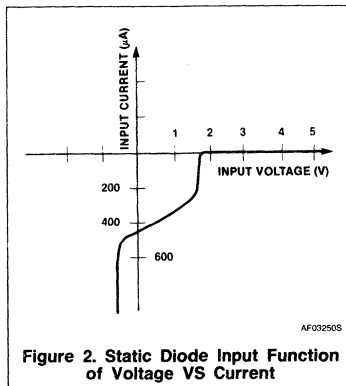
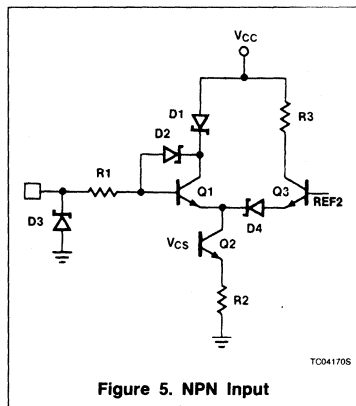
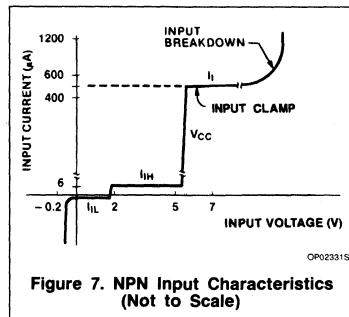

Figure 2. Static Diode Input Function of Voltage VS Current
Figure 5. NPN Input
Figure 7. NPN Input Characteristics (Not to Scale)
The static diode input function of voltage versus current is shown in Figure 2. If the pin voltage is negative, most of the relatively high negative current flows through the clamp Schottky D2. At 0V the current flows from VCC through R1 and D1 to the pin. Switching from a logic Low level to a logic High level occurs when the input pin voltage rises high enough to force the current from the D1 path to the Q3 - Q2 - Q1 path. This happens when the base voltage of transistor Q3 is at three base-emitter drops (3VBE), and the pin is at 2VBE, which is the standard FAST threshold switching voltage. At this voltage the input current is very small, just the leakage currents of diodes D1, D3, and clamp diode D2. The current remains at this small, positive value until breakdown voltage is reached.
The current of Figure 2 is scaled for the case where the pin is required to pull down a single 10K $\Omega$  resistor R1 (20 $\mu$ A maximum in the High state and 0.6mA maximum in the Low state), which is defined as a standard FAST Unit Load (UL). For some parts, pin current can exceed a UL, especially in the logic Low state. This will happen if the pin must sink the current from more than one R1 resistor, or if the value of R1 is less than 10K $\Omega$ , which will be the case if the capacitance at the base of the transistor Q3 is too large for the required switching speed. In this event, the actual number of ULs is listed for each input in the specification sheet for the part. Note: UL, as defined here, is less than the normally defined Schottky TTL Unit Load. The correlation is one Schottky Unit Load = 1.67 ULs. This is an important point to remember for fan-in and fan-out calculations in systems that mix FAST with other TTL families.
The NPN input is shown with two variations in Figures 5 and 6. It has limited use in standard TTL circuits, and is used in selected FAST devices, especially where its superior high-impedance input characteristics are useful. A typical plot of static input current versus input voltage is shown in Figure 7. There are some significant differences between this function and that of the diffusion diode input shown in Figure 2, the most important being the much lower input current in the region from 0V to
age, as shown by the  $I_{I}$  plateau in Figure 7.  $I_{I}$  provides a clamping action to ground for pin voltages in excess of  $V_{CC}$ , which is usually desirable to reduce overshoot.
For the case where  $V_{CC}$  is grounded or floating, the input current is nearly zero for positive voltages between zero and approximately 7V. The conducting path through R1 - D2 - Q1 is available, but the current source Q2 will be shut off because, without  $V_{CC}$  drive, the Q2 base reference  $V_{CS}$  will be at 0V. This is the specified standard setup for incoming inspection. For the incoming inspection testing case where  $V_{CC}$  is connected to a 5V source, the response is shown in Figure 7. The current remains on the Q2-limited plateau until the pin voltage is high enough to cause non-destructive collector-emitter reach-through of Q2. At this point, input current increases as the pin voltage rises, and R1 functions to limit this current and prevent damage to Q2.
The current-mode logic interface is shown in Figure 5. The output voltage is the drop across R3, and is referenced to  $V_{CC}$  (or some on-chip regulated voltage lower than  $V_{CC}$ ) as is required for current-mode logic. For this case, voltage reference REF2 is normally fixed at  $2V_{BE} + 1$  Schottky drop to provide a pin threshold voltage of  $2V_{BE}$ . In fact, REF2 can be tailored to set the switching threshold voltage to any desirable level; it can be set to something other than an integral number of